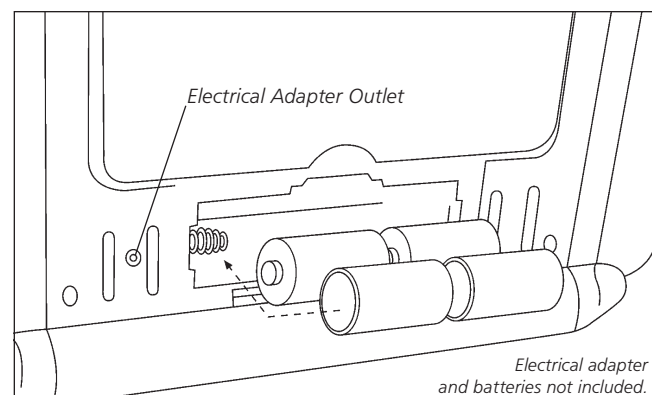

Figure 2
- Installation of 4 D-cell batteries is required for fan operation. Battery box is located on lower back panel of heater. Follow instructions on battery cover for correct battery installation. See figure 2.
- Heater can also be powered by electrical adapter F276127. Required adapter to be 6 volt DC up to 800 milliamp current with positive tip polarity. See figure 2.
- Heater can also be powered by electrical adapter, F276127. Required adapter to be 6 volt DC up to 800 milliamp current with positive tip polarity. See figure 2.